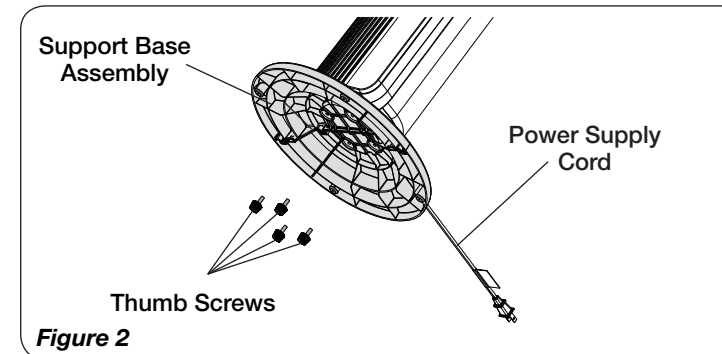

Figure 2
3. Align the **Support Base Assembly** with the Motor Base. Make certain to align the **Key** on the **Support Base Assembly** with the **Locating Notch** on the Motor Base. Attach the **Support Base Assembly** to the Motor Base with **Thumb Screws** (Figure 2).